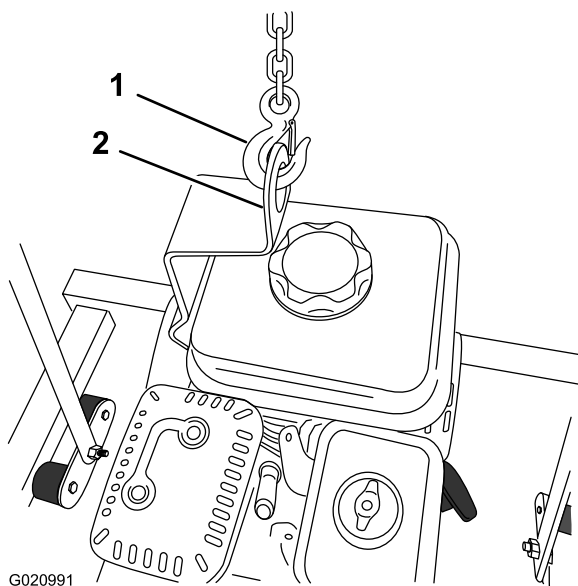

Figure 21
3. Align the hook, strap, or cable of the lifting equipment to the hole in the lifting bracket (Figure 21).
6. Remove the lifting equipment (Figure 21).